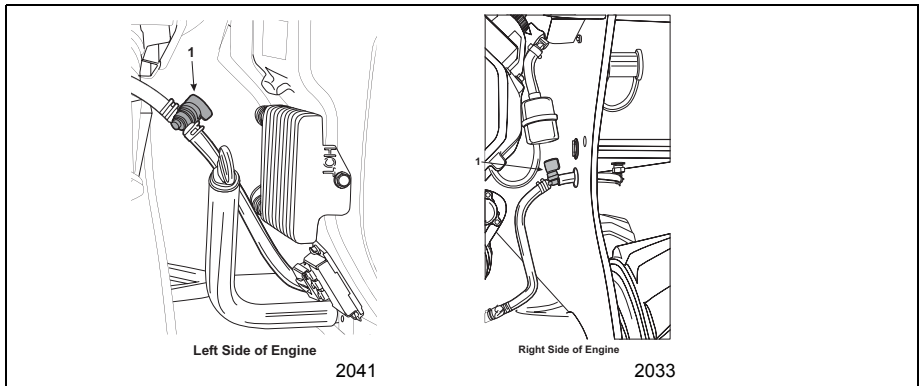

Figure 4–26 Fuel Shut Off Valves
4. Shut off fuel at the fuel shut off valve (Item 1, Figure 4–26) by rotating the valve handles horizontally across the fuel lines.